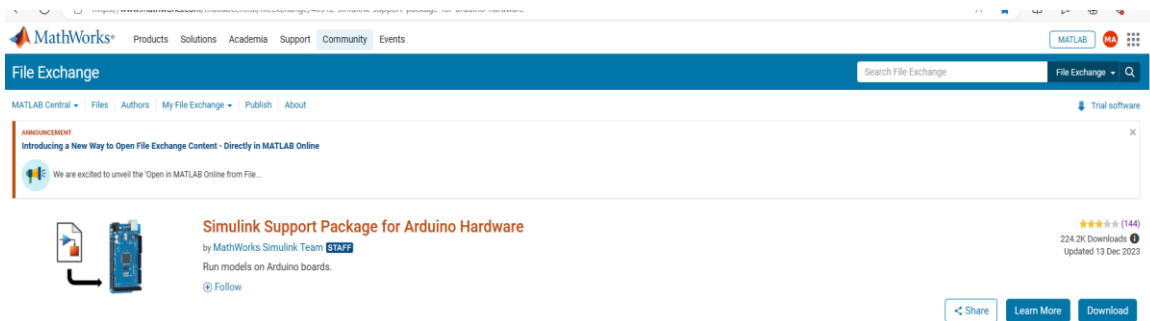

Figure 4.3: Download Simulink support package from MATLAB website.
2. While for manual, need to find the library from the MATLAB official website like Figure 4.3.